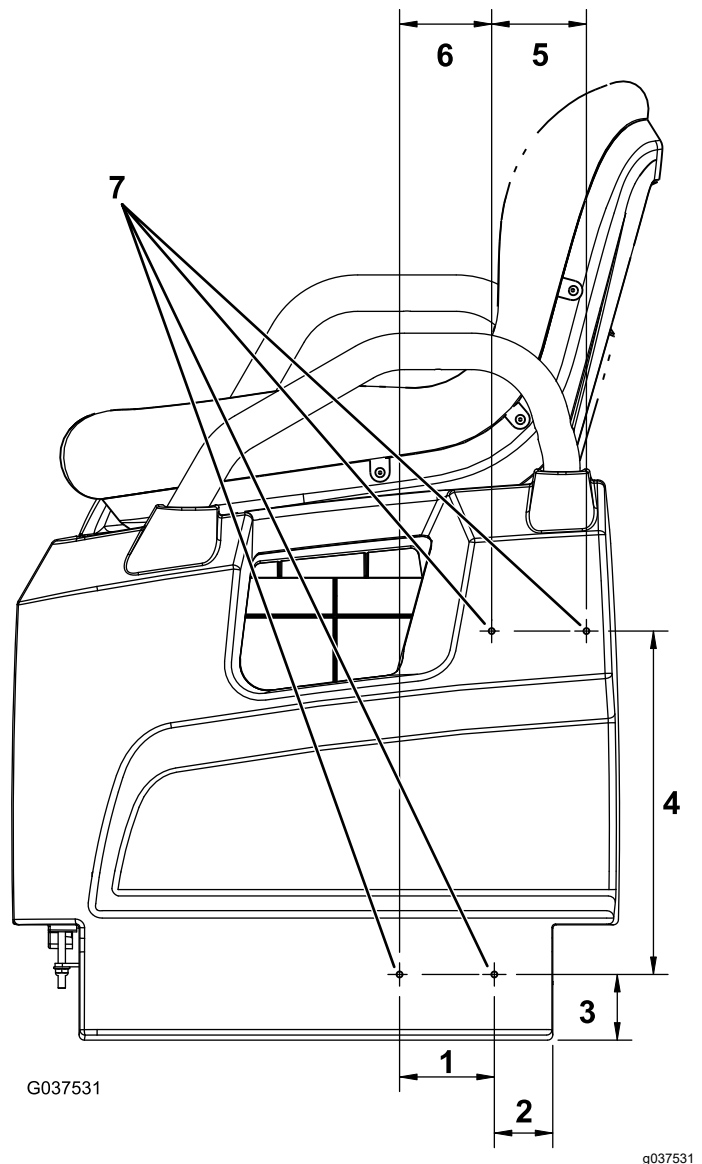

Figure 10
1. On the left side of the machine, measure 51 mm (2 inches) from bottom, left of the seat base side, and mark this location (Figure 10).
2. Measure 57 mm (2-1/4 inches) directly above the location and mark this location (Figure 10).
3. Measure 83 mm (3-1/4 inches) from the left of the location marked in step 2, and mark this location (Figure 10).
4. Measure 80 mm (3-3/16 inches) from the left of the location marked in step 3, then measure 299 mm (11-3/4 inches) directly above this location, and mark this location (Figure 10).
5. Measure 83 mm (3-1/4 inches) from the right of the location marked in step 4, and mark this location (Figure 10).
6. Drill a 5 mm (13/64 inch) hole at each of the 4 marked locations (Figure 10).